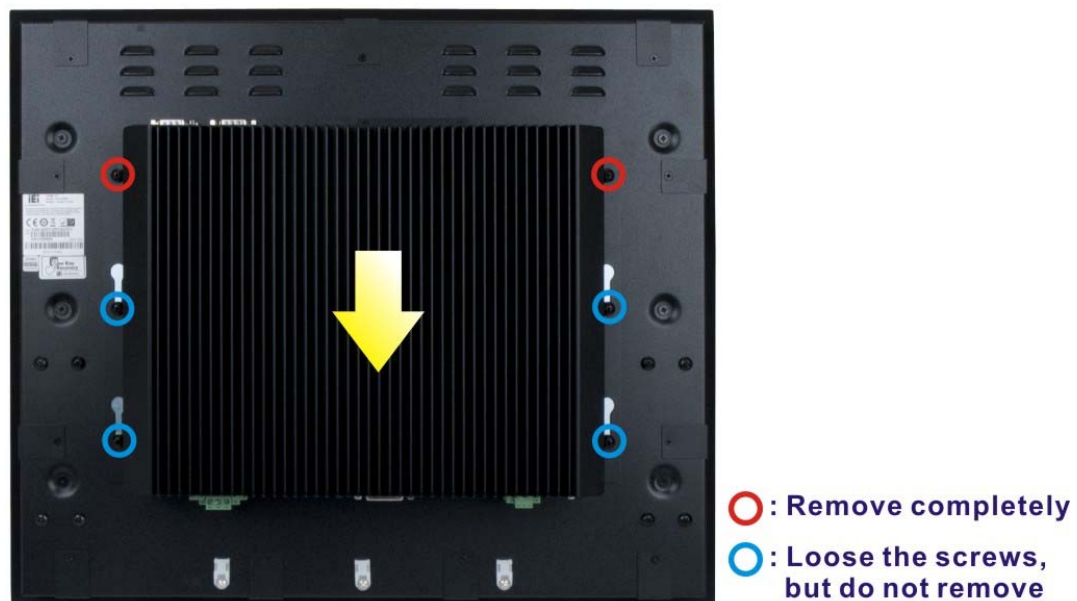

Figure 3-3: SBOX Computer Retention Screws
Step 1: Remove the SBOX computer from the S19A/S24A-QM87i-i5 rear panel by removing/loosing the six retention screws indicated in **Figure 3-3**. Slide the SBOX computer downward and lift the SBOX.